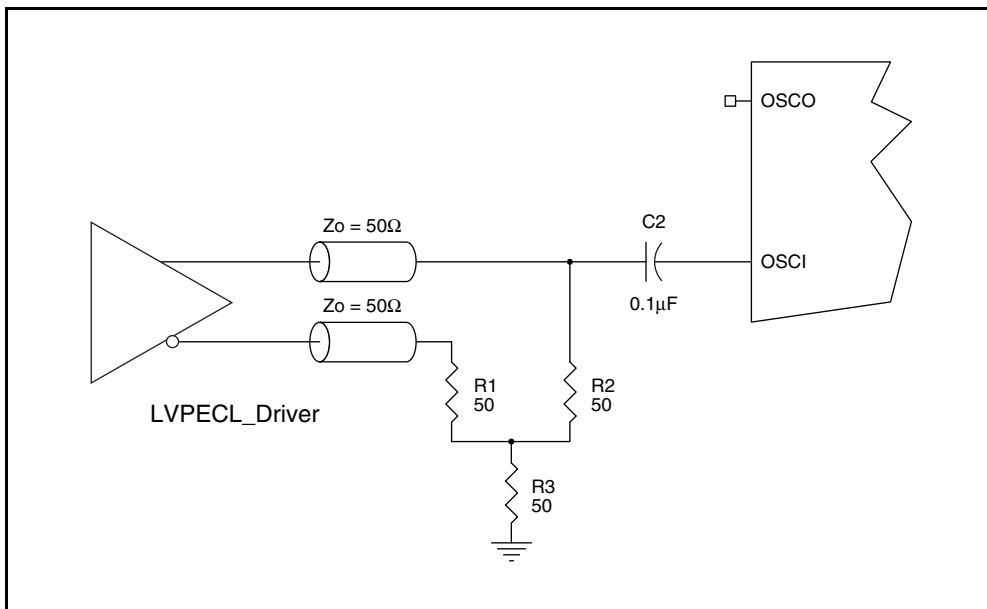

Figure 4: General Diagram for LVPECL Driver to XTAL Input Interface
*Figure 4* shows an example of the interface diagram for an LVPECL driver. This is a standard LVPECL termination with one side of the driver feeding the OSCI input. It is recommended that all components in the schematics be placed in the layout. Though some components might not be used, they can be utilized for debugging purposes. The datasheet specifications are characterized and guaranteed by using a quartz crystal as the input.